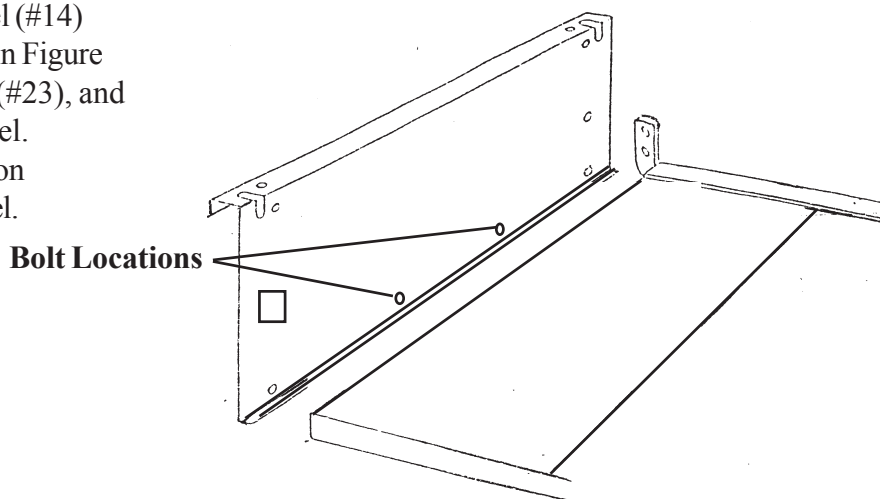

Figure 12
Step 12: Install the right Side Panel (#14) to the Bottom Panel (#1) as shown in Figure 12. Use 2 Bolts (#21), 2 Washers (#23), and 2 Nuts (#24) to attach the Side Panel. See Step 13 below for instructions on installing 2 other bolts into side panel.